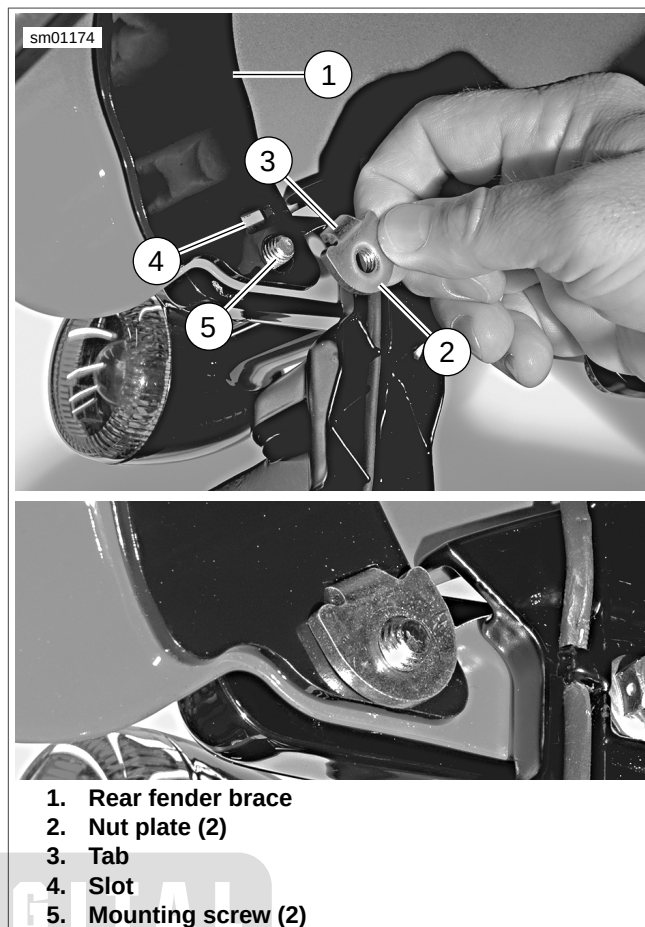

Figure 6-78. Rear Fender Nut Plate: XL 1200N (Domestic Only)
XL 1200N (Domestic): see Figure 6-78. Make certain that tab (3) on nut plate (2) fits into slot (4) in fender brace (1) when securing nut plate with rearmost fender mounting screw (5).